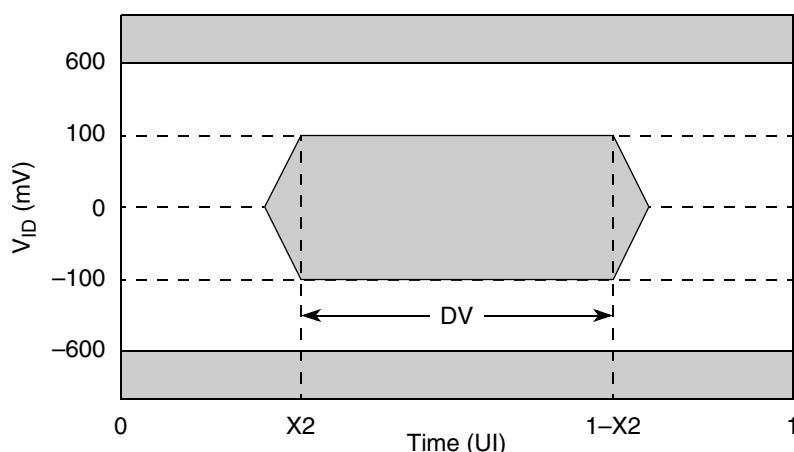

Figure 39. RapidIO Receive Mask
2. Measured using the RapidIO receive mask shown in Figure 39.
The compliance of receiver input signals RD[0:15] and RFRAME with their minimum data valid window (DV) specification shall be determined by generating an eye pattern for each of the data signals and comparing the eye pattern of each data signal with the RapidIO receive mask shown in Figure 39. The value of X2 used to construct the mask shall be  $(1 - DV_{min})/2$ . The  $\pm 100$  mV minimum data valid and  $\pm 600$  mV maximum input voltage values are from the DC specification. A signal is compliant with the data valid window specification if and only if the receive mask can be positioned on the signal's eye pattern such that the eye pattern falls entirely within the unshaded portion of the mask.